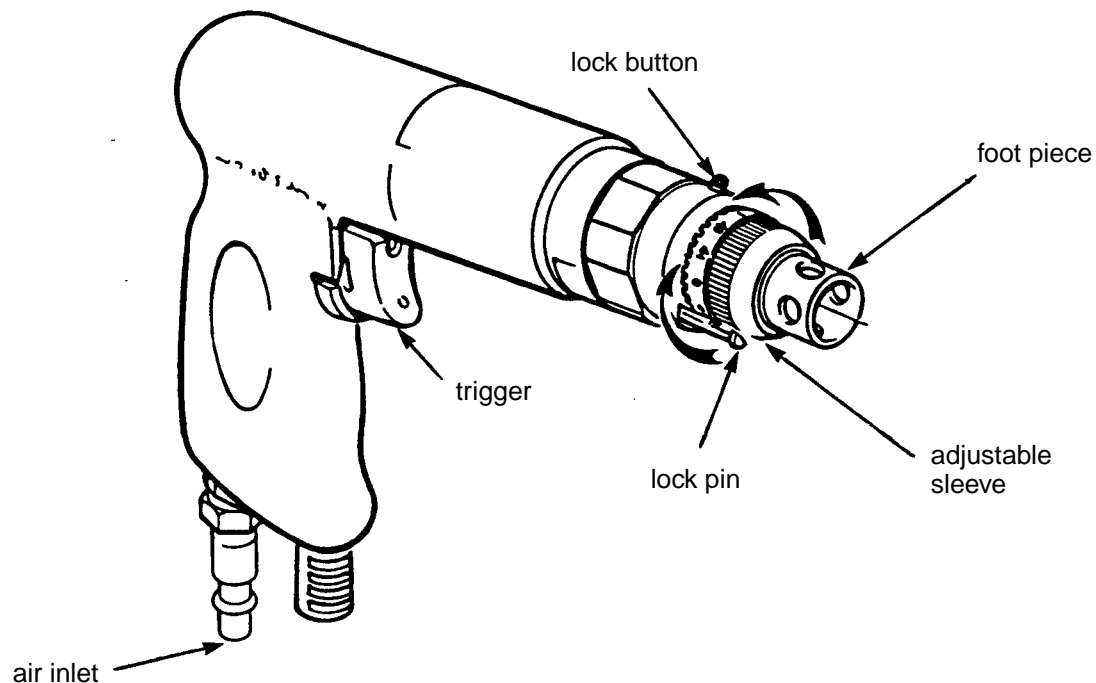

Figure 1 - Rivet Shaver (typ.)
- 4.2.1 Rivet shavers (e.g., as listed in Table 1). Refer to Table 1 for a listing of the rivet shavers available at Bombardier Toronto (de Havilland). Refer to Figure 1 for a general description of a rivet shaver.